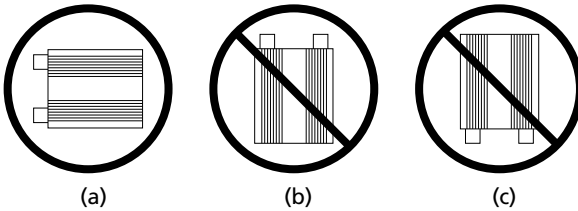

Fig 4.1
If the inverter is required to be mounted on a vertical surface like a wall, please ensure that the fan axis is horizontal as shown in Fig 4.1(a).
The DC input side has larger ventilation openings (9) for fan airflow. Mounting with the fan side facing up or down as shown in Figs 4.1(b) or 4.1(c) is NOT permitted due to safety considerations. If mounted as in Fig 4.1(b), metallic or other conductive object(s) may accidentally fall inside the unit through the fan ventilation openings, and create hazardous condition resulting from short circuit of internal high voltage section(s). If mounted as in Fig 4.1(c), hot / molten material from damaged internal portion of the unit due to malfunction may fall on combustible material on the floor and may create fire hazard.